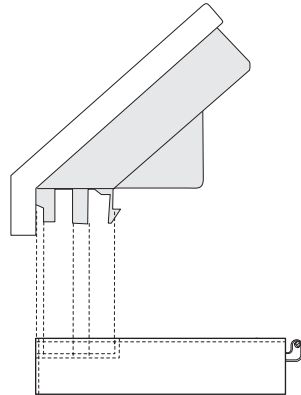
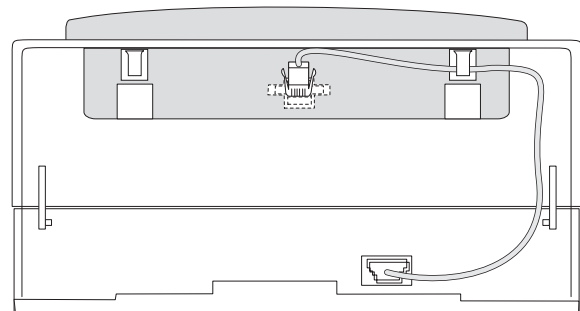

Figure 3-50. Installing the Customer Display
Figure 3-51. Routing the Customer Display Cable
- 5 To exchange the customer display, perform the above steps in reverse order. See Figure 3-50. Ensure that the customer display cable is routed as shown in Figure 3-51.